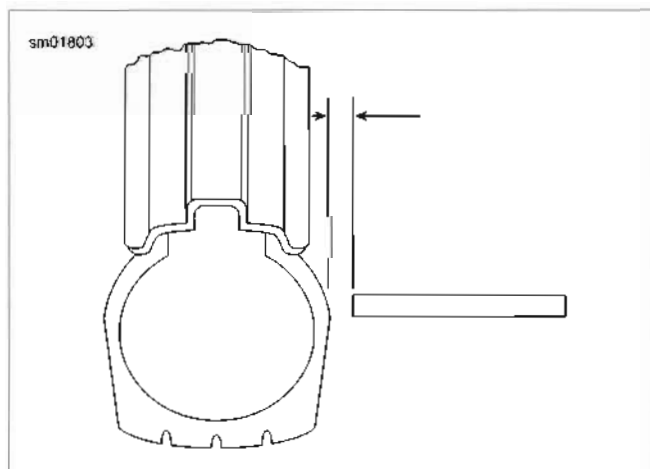

Figure 2-33. Checking Tire Lateral Runout
2. See Figure 2-33. Turn the wheel on the axle and measure tire lateral runout from a fixed point to a smooth area on the tire sidewall. Avoid measuring on raised letters or vents.